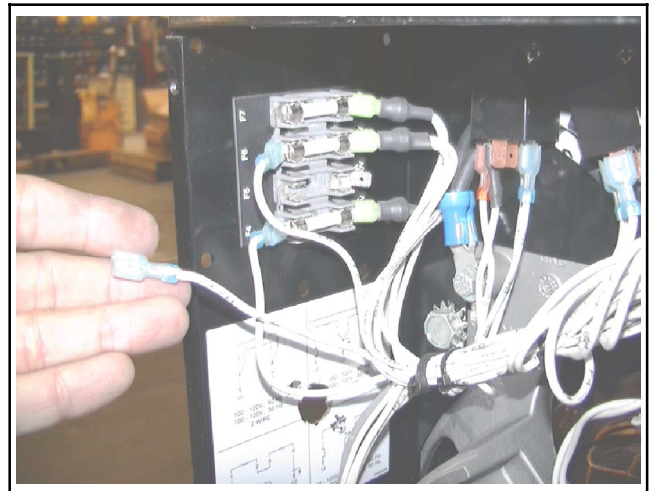

Figure 11 Lead F7A Removed from Fuse F7
11. Remove lead F7A from fuse F7. See Figure 11.